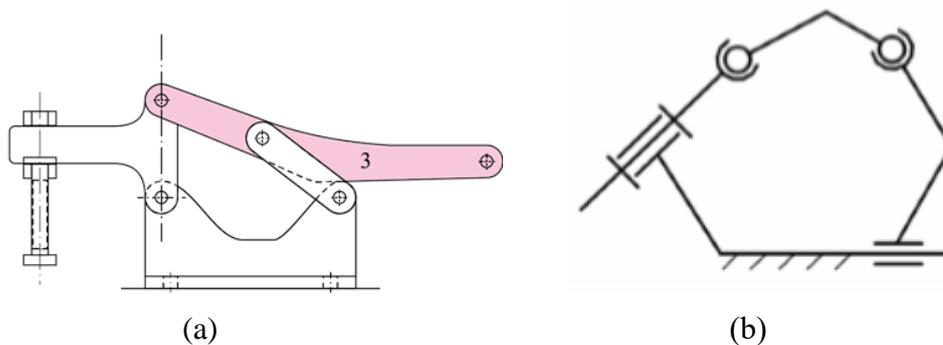

Fig. 1
1. For the mechanism as shown in Fig. 1 (a) and (b), please determine its degree of freedom, and give those in detail you need (such as: No. of links and joints, types of joints, etc.) for determining the degree of freedom